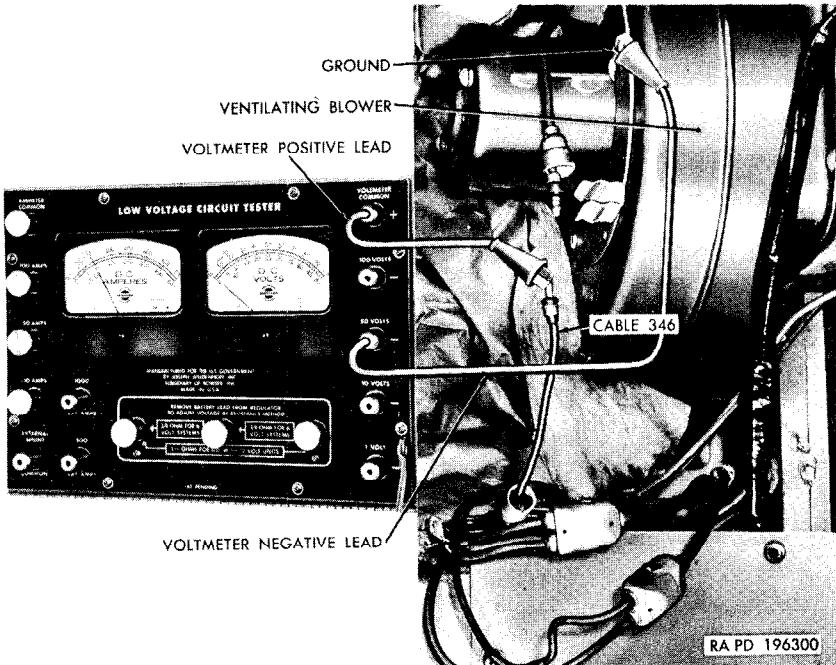

Figure 67. Checking for current to ventilating blower motor and switch.
- (1) *Check for current to the ventilating blower motor* (fig. 67).
- (b) Remove the blower motor cable connector from the clip on the blower and disconnect cable (346) (right blower) or (347) (left blower) at the cable connector.
- (e) Turn the blower switch on and observe the reading on the voltmeter lower scale. If the voltmeter shows battery voltage (approximately 24 volts), replace blower motor (par. 272b and c). If no voltage reading is indicated, proceed with (2) below.
- (2) *Check for current to blower switch.*
- (a) Current for both the ventilating blowers and the personnel heater is supplied by cable 400-B. Check for current (a(4) above).
- (b) Observe the voltmeter lower scale. If the voltmeter shows battery voltage (approximately 24 volts), replace the ventilator blower switch (par. 272d). If no voltage reading is indicated, check for current at the circuit breaker (a(2) above), and correct as necessary.